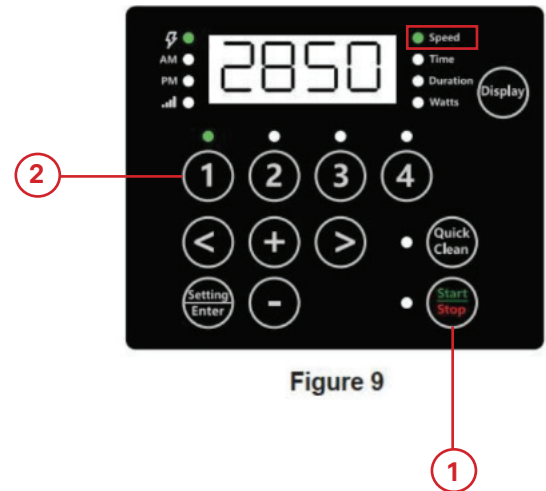

Figure 9
- 2) Press "1". The SPEED 1 LED and the "Speed" indicator lights up during adjustment. **See Figure 9.**